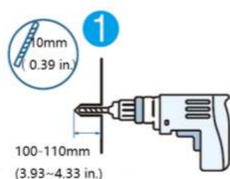

Figure 4-3
- g) Choose the recommend drill head (as shown in Figure 4-3) to drill 4 holes on the wall, 100mm-110mm deep.
h) Use a hammer to secure the support to the wall, and install the expansion bolt in the hole, as shown in Figure 4-3.